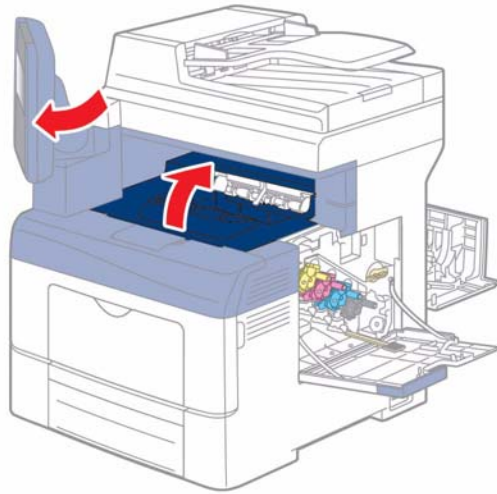

Figure 8 Open the Top Cover
7. Open the top cover, Figure 8.